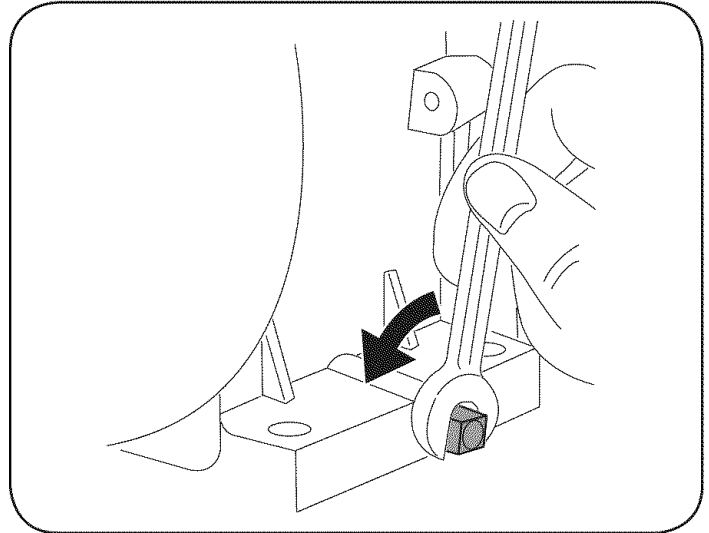

Figure 13
3. Remove square oil drain plug located at the base of the engine, and drain oil into an appropriate receptacle. See Figure 13.